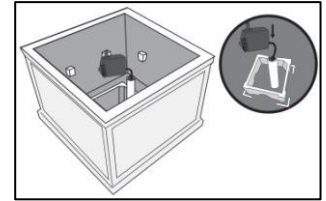

Fig. 1A
1. Select a flat, level surface for assembly and final location of your fountain. Assemble the base, Run the power wire from the pump down through the PVC pipe and out through the notch at the bottom. Fig. 1A.